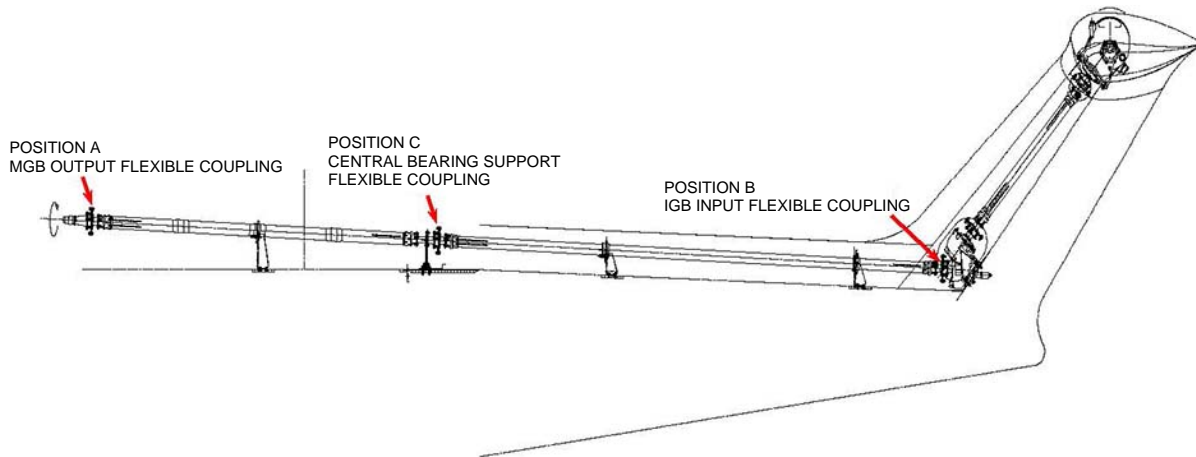

Figure B6
- 4.2 With reference to Figure B6 and Figure B7, install the adapter P/N 139H6300D002A651D on the flexible coupling on the MGB output (Position A). Attach the adapter to the two flexible coupling flanges as shown in Figure B7.
With reference to Figure B6, when the tail drive line rotates, make sure that the linear gauge pin, installed on the Position A (MGB flexible coupling), do not touch the engine firewall.
- 4.13 With reference to Figure B6, install the adapter P/N 139H6300D002A651D on the IGB flexible couplings. Refer to Figure B6, Position B.
- 4.17 With reference to Figure B6, install the adapter P/N 139H6300D002A651D on the central bearing support (Position C) and the linear gauge pin (part of linear gauge bench P/N TALL0000M1A686A) on the adapter.